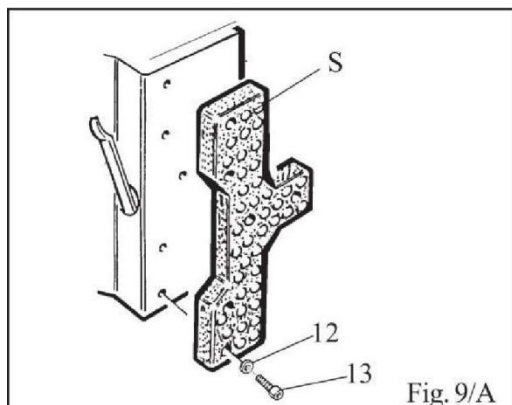

Fig. 9/A
- Connect the machine to the air net work (Fig. 9/b)
- Press the bead breaker's pedal to release the hook from the cylinder's shaft (Fig. 9/c)